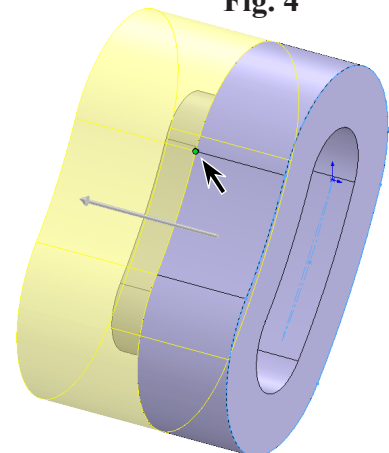

Fig. 6
- click a **vertex on inside edge**, **Fig. 6**